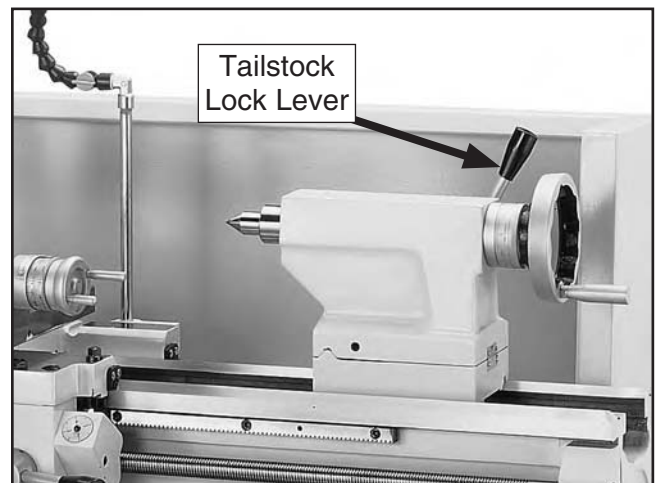

Figure 10. Tailstock lock lever.
2. To balance the lifting load, loosen the tailstock lock lever (see **Figure 10**), move the tailstock to the right end of the bedway, then lock it in place.